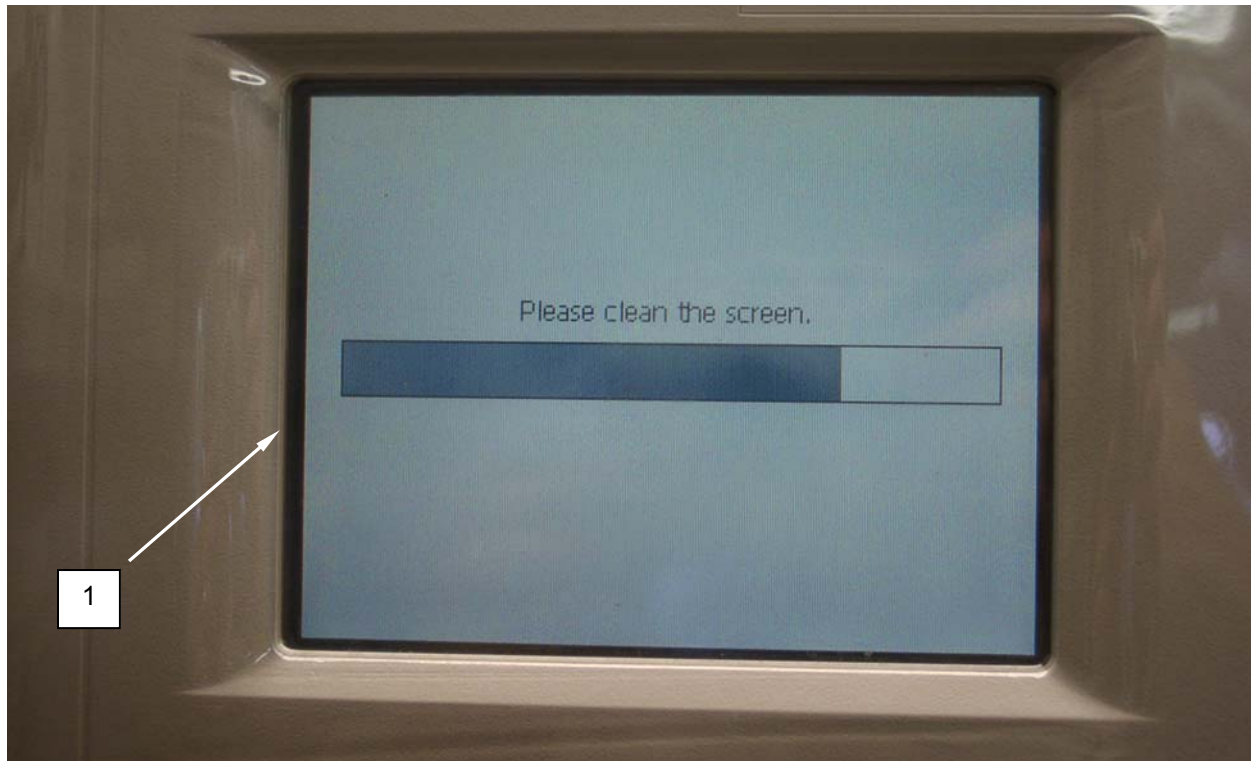

Figure 9. Clean Screen off Delay Display.
3. The screen displayed in Figure 9 will appear. While this screen is displayed, the touch screen may be cleaned. The bar indicator (**Figure 9, Item 1**) shows the delay time remaining.